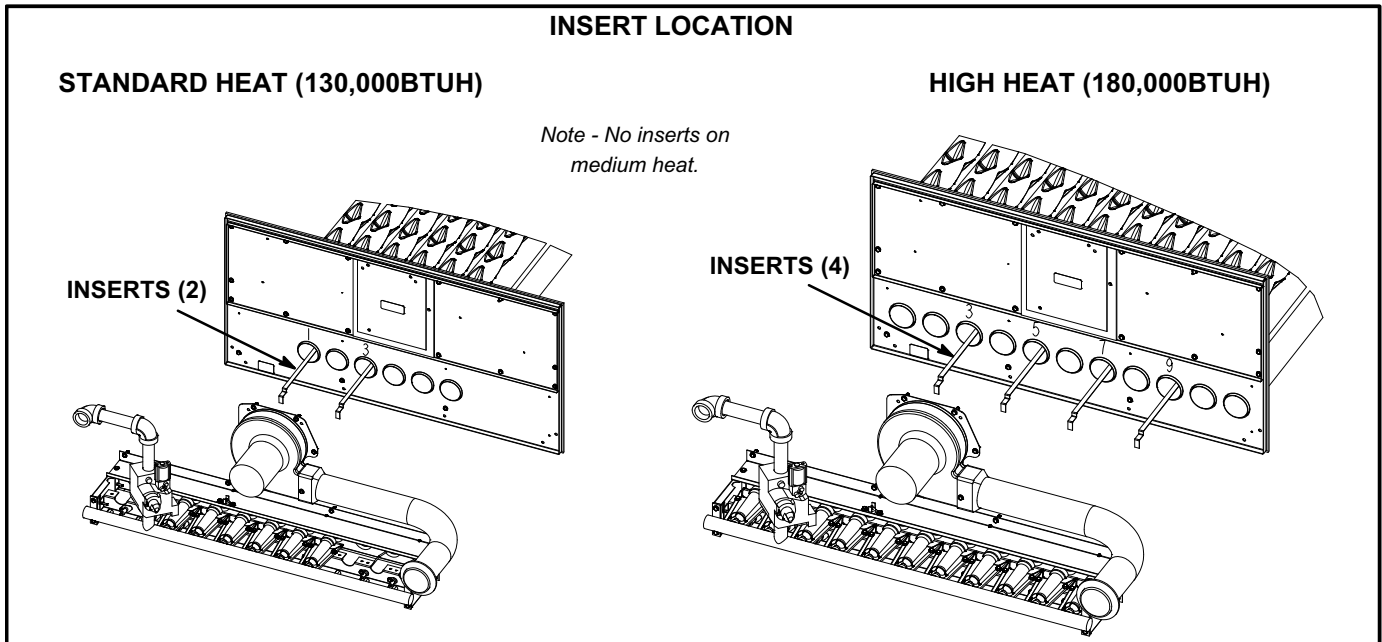

FIGURE 38
- 3- Remove inserts if installed. See figure 38.
- 1- Inserts are installed on standard (130,000Btuh) and high (240,000Btuh) heat exchangers. Medium heat exchangers do not require inserts. See figure 38.